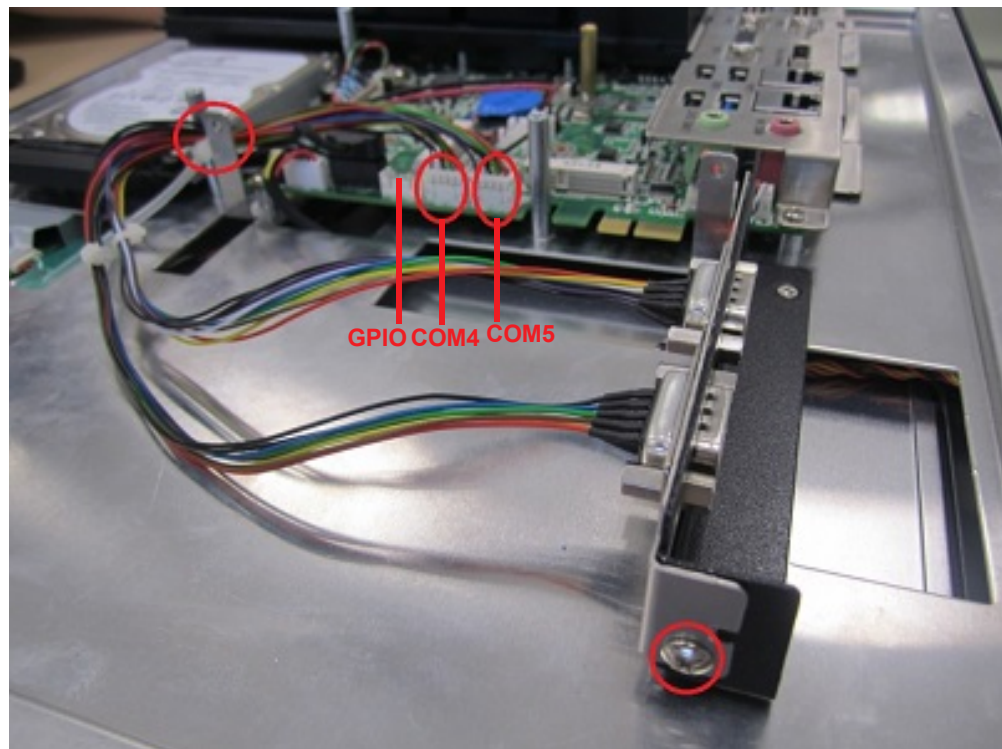

Figure 2.58
4. Affix the shield with COM connectors to the expansion slot backplate and secure in place using a screw. Connect the two COM cables to the mainboard and secure with cable ties (see Fig. 2.58).